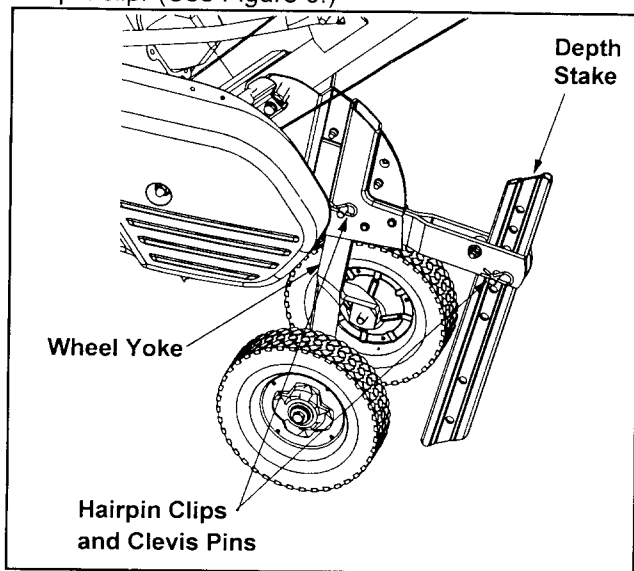

Figure 9
The throttle control lever is located on the engine. It controls the engine speed and stops the engine. (See Figure 9.)
5. Grasp starter handle (See Figure 9) and pull rope out slowly until engine reaches start of compression cycle (rope will pull slightly harder at this point). Let the rope rewind slowly.
The tiller is shipped with the wheels adjusted such that the unit sits level. While tilling, as the tines enter the ground and the front of the tiller lowers, the wheels must be raised to level the unit, which is essential for proper engine operation. This adjustment is made by removing the clevis pin and hairpin clip from wheel yoke, raising the wheels to the desired height, and replacing the clevis pin and hairpin clip. (See Figure 9.)
2. **Depth Stake Adjustment:** The depth stake acts as a brake for the tiller and controls the depth and speed at which the machine will operate. Remove the clevis pin and hairpin clip to raise or lower depth stake. (See Figure 9.)